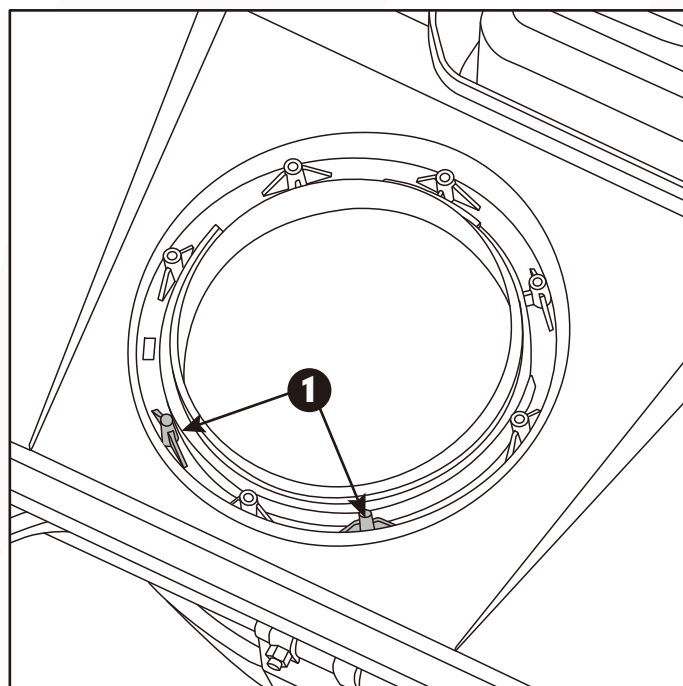

Fig.3A
1. Locate and align the two positioning tabs on the snow blower body with the discharge chute. (Fig.3A)